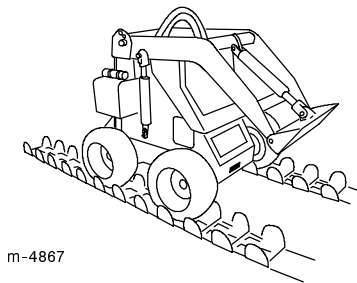

Figure 4
4. Start the traction unit and drive it forward onto the tracks (Fig. 4).